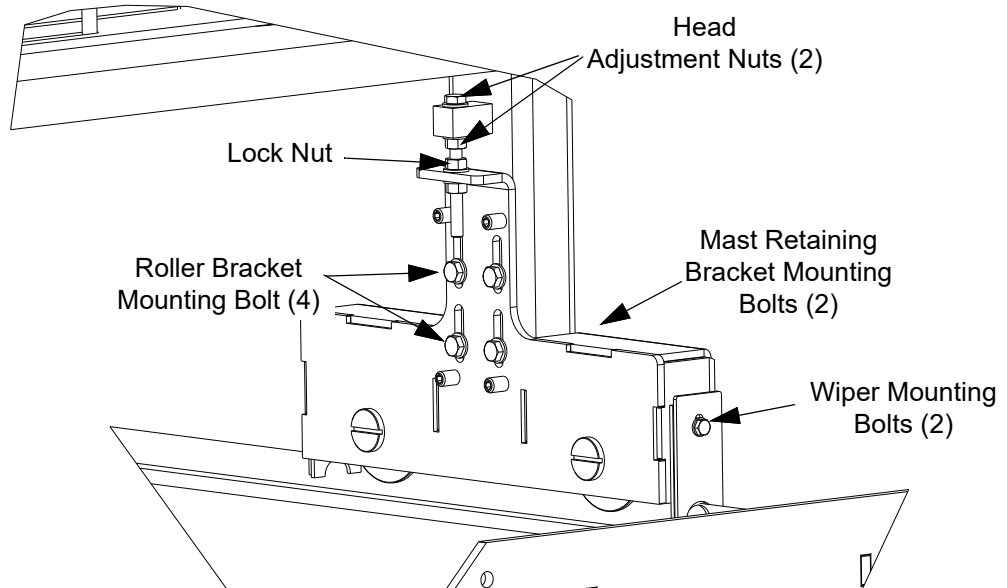

FIG. 4-4
**See Figure 4-4.** To adjust the head tilt, loosen the four mounting bolts of the side roller bracket, the two wiper mounting bolts and the two mounting bolts of the mast retaining bracket. Use the head adjustment nuts to move the outside of the head up or down.